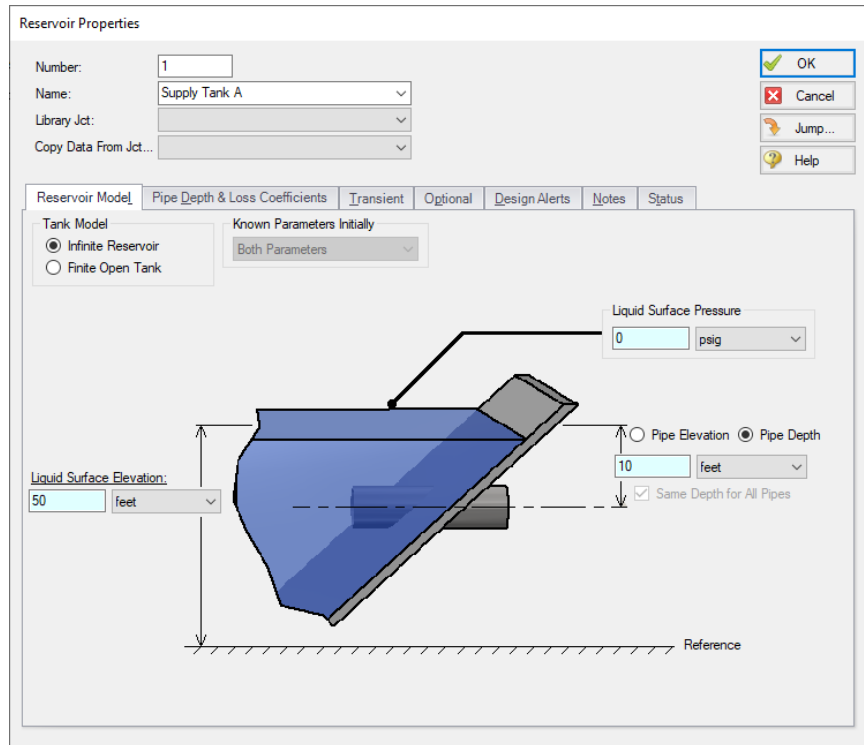

Figure 2.13 Properties window for the J1 Reservoir
- **To define the first reservoir**, open the J1 Reservoir Properties window (Figure 2.13) by double-clicking on the J1 icon.
You can give the junction a name, if desired, by entering it in the Name field at the top of the window. By default, the junction's name indicates the junction type, and will be displayed in the Model Data and Output. It can optionally be displayed on the Workspace via the use of Workspace Layers which will be discussed later in this chapter. In Figure 2.13, the name of this Reservoir has been changed to Supply Tank A.
The information in the Properties windows is grouped into categories and placed on separate tabs. Click the tab to bring its information forward. Figure 2.13 is an example of a Reservoir Properties window.